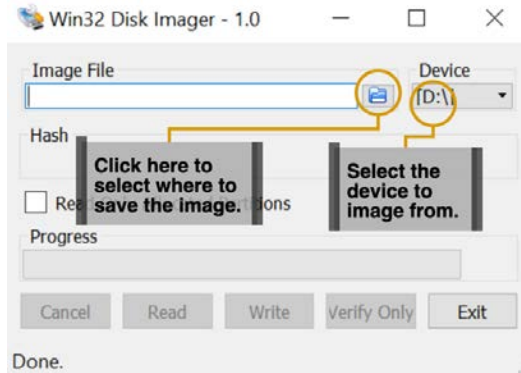

Figure 5.4 – Win32 Disk Imager
- Highlighted on the right of *Figure 5.4* is the **Device**; this should have automatically found the SD card device. Use the folder icon highlighted to choose where the image file will be stored: